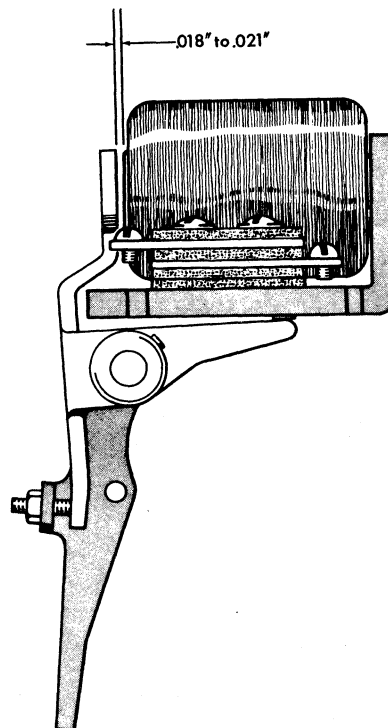

Figure 114. Control Magnet
1. Form control magnet armature assembly to obtain .018-inch to .021-inch clearance between armature and core when magnet is de-energized (Figure 114).